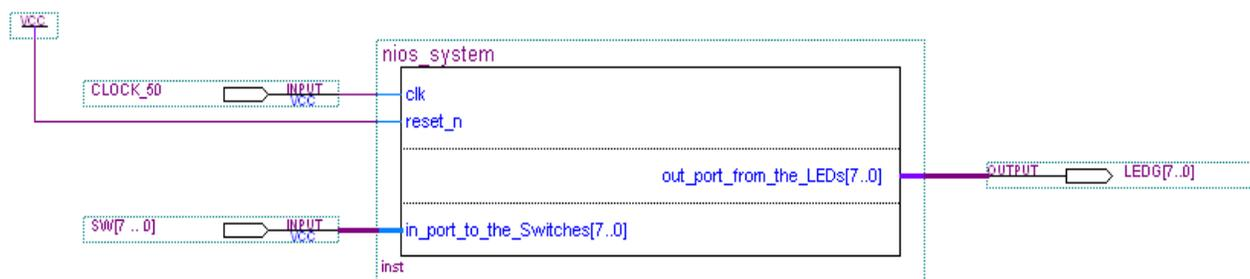

Figure 2: The Example Nios II System with I/O
6. Click the left mouse button to drop the symbol in place. Figure 2 shows the complete BDF using the LED and SW pins.